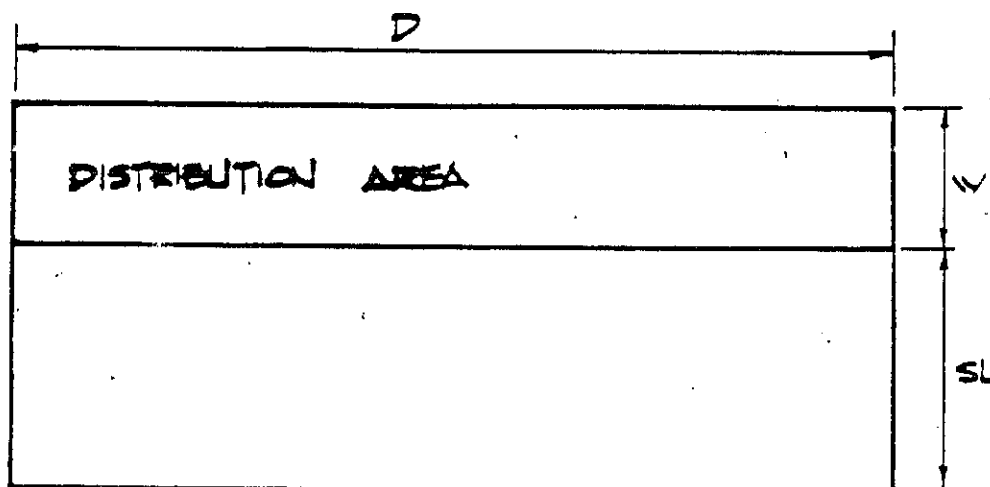

Figure 11. Basal area to meet soil-absorption requirements on sloping lots
The basal area needed to meet soil-absorption requirements on sloping lots includes only the area directly beneath and downslope of the distribution area (Figure 11). The size of the mound basal area (BA) is calculated as described in Chapter 3.
SL = length of lower sideslope (Figure 11)